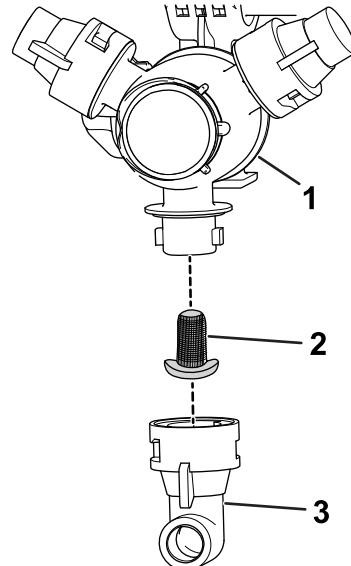

Figure 110
2. Remove the nozzle from the spray turret (Figure 110).
3. Remove the old nozzle filter (Figure 110).
4. Install the new nozzle filter (Figure 110).
5. Install the nozzle onto the spray turret (Figure 110).